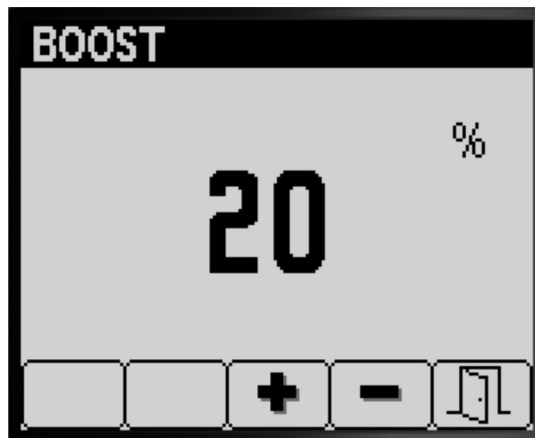

Figure 9
2. Press button 4 to select the Boost % setting (Figure 9).
3. Press button 3 or 4 to raise or lower the boost percentage (Figure 9).